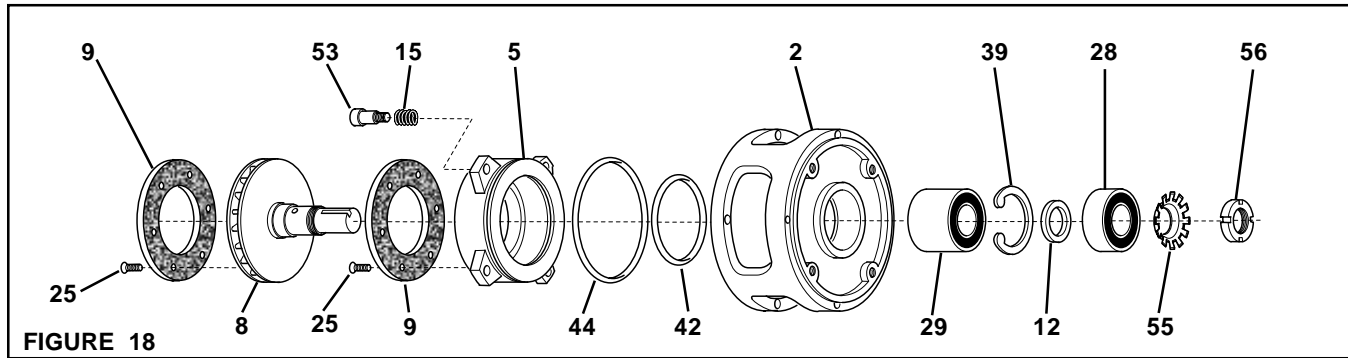

FIGURE 18
1. Bend back the tabs on the old Keyed Washer (Item 55) and remove the Lock Nut (Item 56) and Keyed Washer (See Figure 18).
2. Fully support the Housing (Item 2) and press the Disc Journal (Item 8) out of the Housing (See Figure 18).
13. Remove the Spacer (Item 12) and Retaining Ring (Item 39) from the Housing (Item 2) (See Figure 18).
14. Press the old Ball Bearing (Item 29) out of the Housing (Item 2) (See Figure 18).
15. Clean the Bearing Bore of the Housing (Item 2) with fresh solvent, making sure all old Loctite residue is removed (See Figure 18).
16. Apply an adequate amount of Loctite® 680 to evenly coat the outer race of the new Ball Bearing (Item 29) and press the new Ball Bearing into the Housing (Item 2) (See Figure 18).
17. Reinstall the Spacer (Item 12) and the Retaining Ring (Item 39) (See Figure 18).
18. Apply an adequate amount of Loctite® 680 to evenly coat the outer race of the new Ball Bearing (Item 28) and press the new Ball Bearing into the Housing (Item 2) (See Figure 18).
19. Lubricate the new O-ring Seals (Items 42 and 44) and the o-ring contact surfaces of the Housing (Item 2) and Piston (Item 5) with a thin film of fresh o-ring lubricant (See Figure 18).
20. Reinstall the new O-ring Seals (Items 42 and 44) onto the Piston (Item 5) and slide the Piston into the Housing (See Figure 18).
21. Slide a Compression Spring (Item 15) onto each of the four Socket Head Shoulder Screws (Item 53) and secure the Piston (Item 5) to the Housing (Item 2) (See Figure 18).
22. Alternately and evenly tighten the Socket Head Shoulder Screws (Item 53) to 23 Ft. Lbs. [31 N•m] torque (See Figure 18).
23. Supporting the inner race of the new Ball Bearing (Item 28) and press the Disc Journal (Item 8) into the Ball Bearings (Items 28 and 29) and Housing (Item 2) (See Figure 18).
24. Slide a new Keyed Washer (Item 55) onto the Disc Journal (Item 8) and reinstall the Lock Nut (Item 56) (See Figure 18).
25. Bend down the tabs of the new Keyed Washer (Item 55) to lock the Lock Nut (Item 56) (See Figure 18).